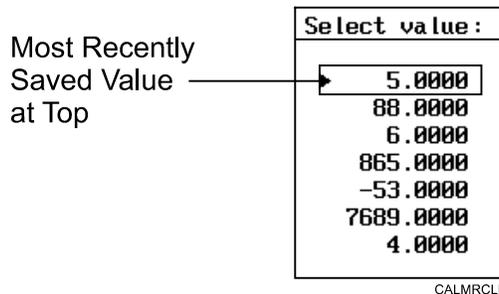

Figure 5-6, Math Calculator Select Value Pop-Up
2. Highlight the **Math Calculator** template and press **ENTER**. **Select value:** pop-up is displayed, with the most recently saved value displayed at the top of the pop-up menu. Refer to **Figure 5-6**.